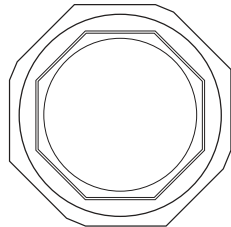

FIGURE 1
A. For manway flange or tank sump adaptor mounting nipples, locate center indicator in sump base for proper alignment of template (See FIGURE 1). After holes are drilled, sand surrounding area with 80 grit or coarser sandpaper or gridner. Clean sanded surface with Acetone to remove any debris, oils, mold waxes or release agents. Apply a generous bead of Bostik adhesive to the outside of the sump, all around of the hole pattern. Mount sump and tighten nuts in a star pattern to ensure an even seal. Backfill the void between the tank top and the bottom of the sump base with clean fill or pea rock.